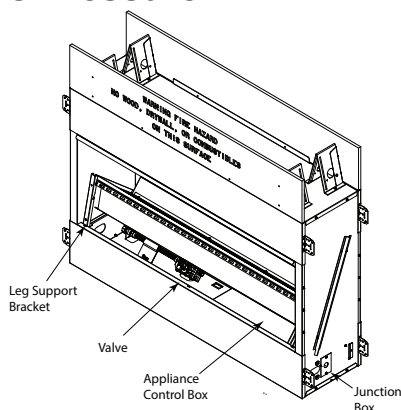

Figure 6.1. Appliance With Engine Lifted
The valve and controls are located in the appliance control box. See Figure 6.1.
The control box and controls can be accessed by lifting engine assembly and shown in Figure 6.1
- Remove four (4) 1-1/2 inch screws securing burner assembly to appliance, located on the front left and right of the burner assembly directly behind the deflection glass retainers. The other two screws are in the back corners directly behind the front screws.
- Lift the burner assembly and place the two engine supports, provided under the Engine, against lower front space at the bottom of the face, and slide into the slots at the bottom of the engine assembly. See Figure 6.1.